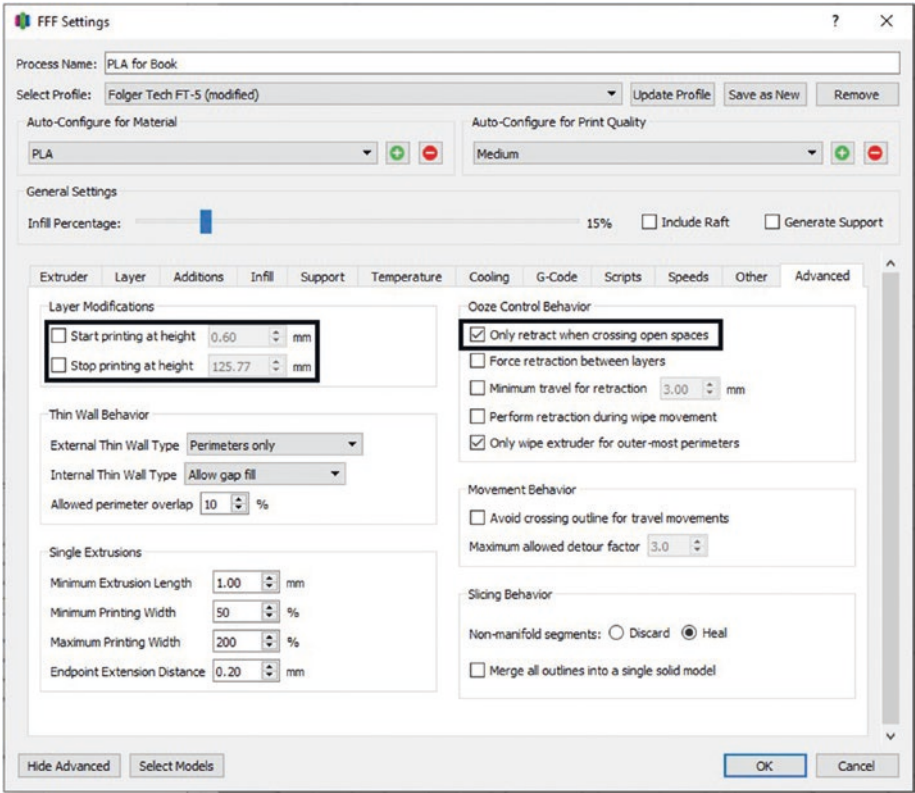

Figure 4-30. *Advanced tab*
12. Tab 12: Advanced (see Figure 4-30)